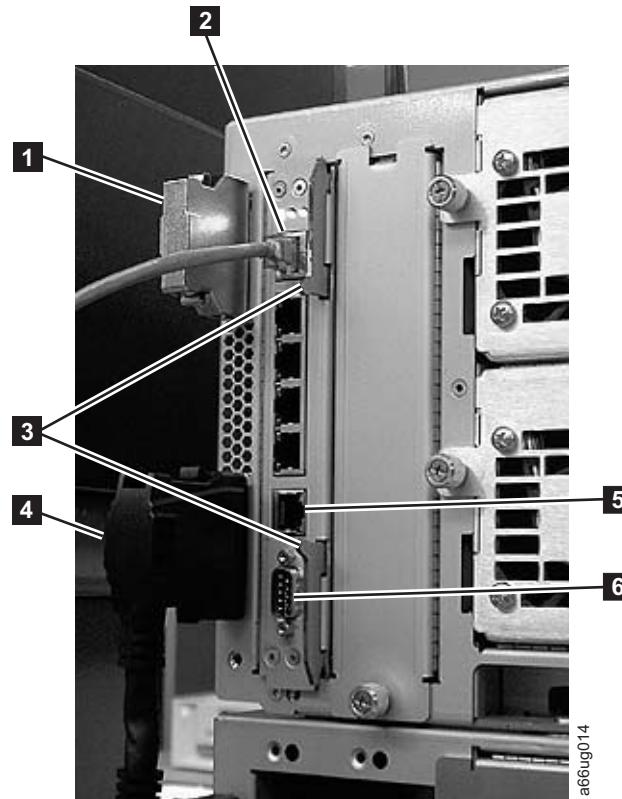

Figure 8-40. Library Control Blade (LCB)
2. Grasp the pair of latches near the top and bottom of the LCB (**3** in Figure 8-40 on page 8-43) by pushing them in until they click into place.
3. Reconnect the Ethernet cable (**2** in Figure 8-40) by pinching the tab and pushing the connector into the LCB.
Note: Six slots reside below the Ethernet cable. The four topmost slots are reserved for future use. The two bottommost slots are designated as Ethernet (**5** in Figure 8-40) and serial (**6** in Figure 8-40) ports, and are reserved for use by IBM Service Personnel.